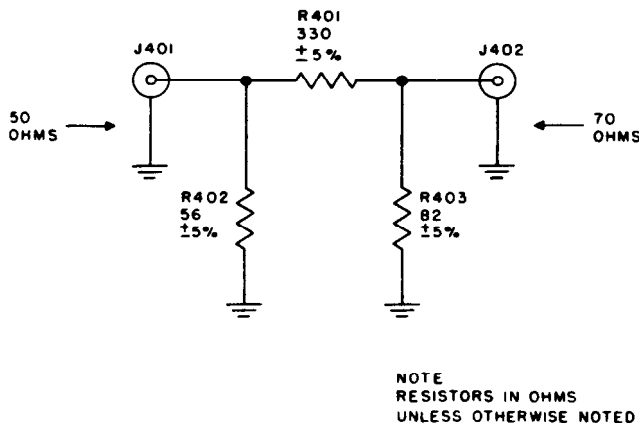

Figure 2-16. Impedance Matching Network CU-408/URM-25F Simplified Schematic
13. IMPEDANCE MATCHING NETWORK CU-408/URM-25F. (See figure 2-16.)